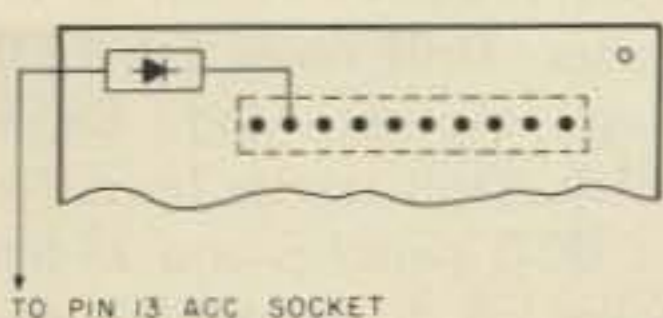

Fig. 2. Top of matrix board.
6. On the top side of the matrix board, connect a diode to the second pin of the matrix board socket as shown in Fig. 2. This diode should be placed parallel with